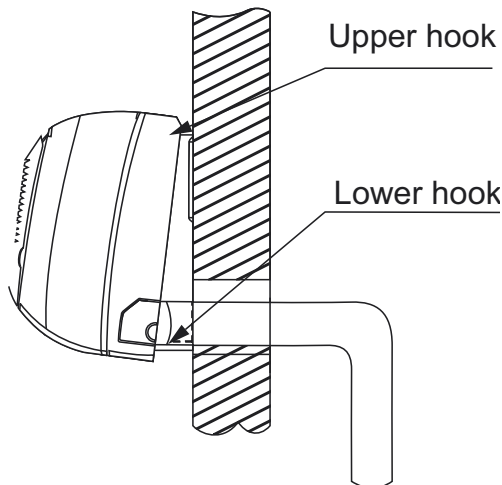

Fig. 25 — Indoor Unit Installation
7. Push the lower part of the indoor unit up on the wall, then move the indoor unit from side to side, up and down to ensure it is hooked securely (see Fig. 25).